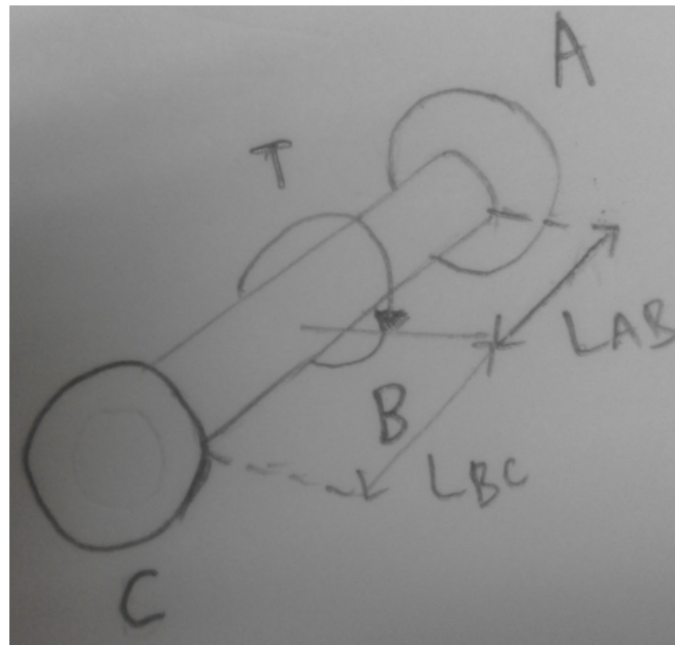

Figure 7.2
- If figure 7.2 is shown as free-body diagram,